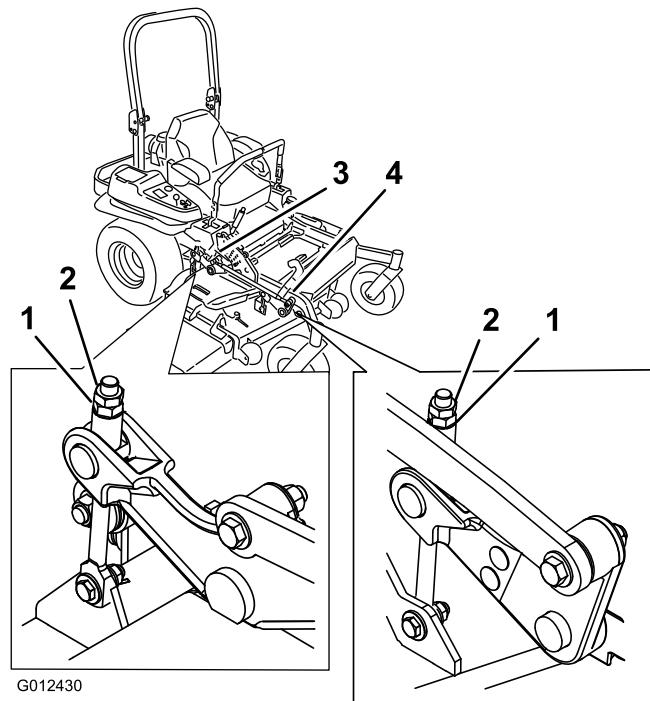

Figure 87
10. Fine-tune the adjustment nut on the front deck lift assembly by turning it (Figure 87).
16. Fine-tune the adjustment nut on the front deck lift assembly by turning it (Figure 87). To increase the height, turn the adjustment nut clockwise; to decrease, turn counterclockwise.